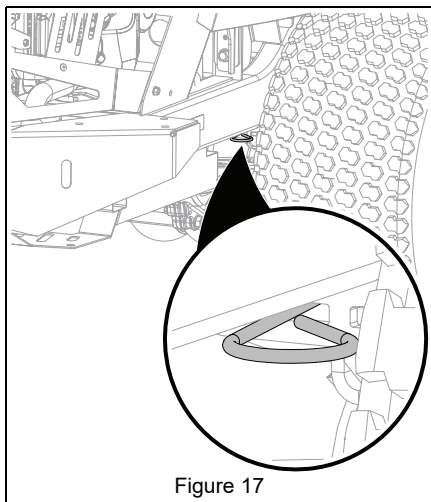

Figure 17
- Return transaxle bypass levers to operating position. See Figure 17.